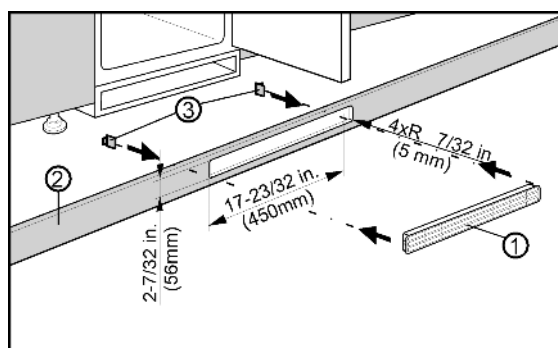

Fig. 8
Ventilation from underneath through the floor of the kitchen cabinet can be set up with the supplied ventilation grid *Fig. 8 (3)* or an air vent with at least a 31 in² (200 cm²) cross section area. If you use the supplied ventilation grid *Fig. 8 (1)* please proceed as follows:
- Insert the ventilation grid *Fig. 8 (1)* into the cut out in the cabinet floor *Fig. 8 (2)*.
- Slide the snap connectors *Fig. 8 (3)* into the grid from behind until the hooks touch the cabinet floor.